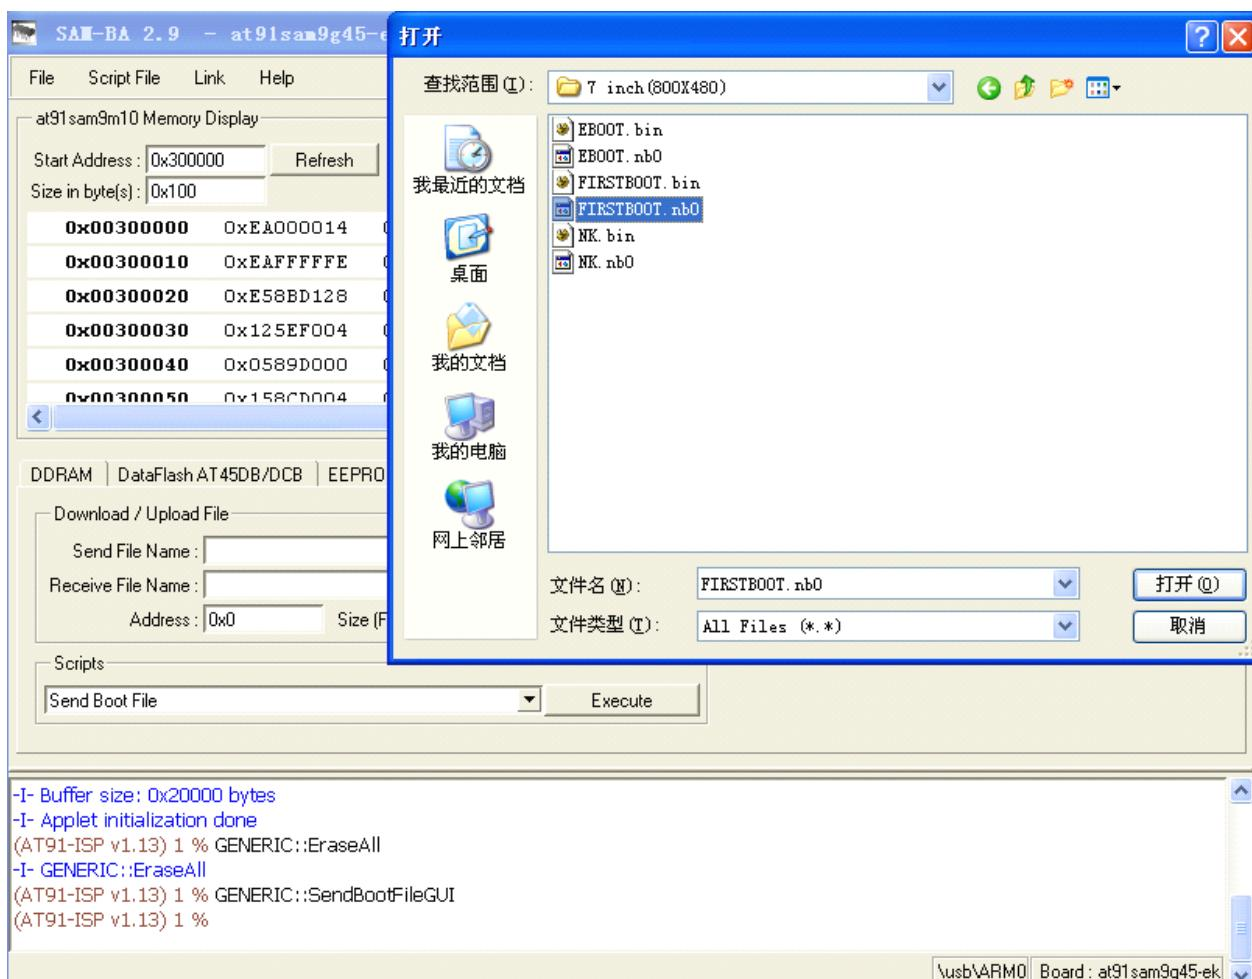
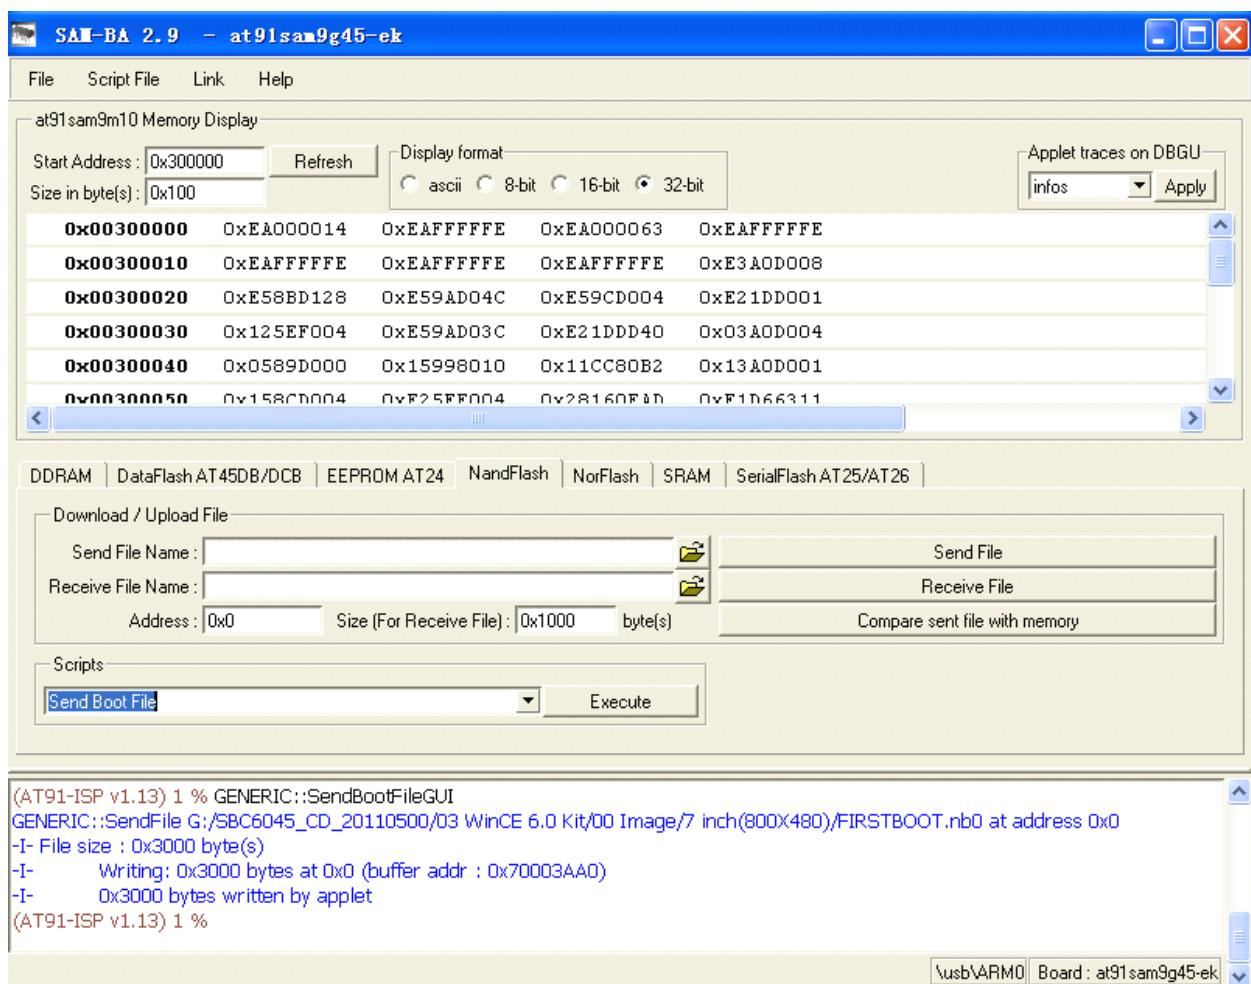

Figure 12.2.6
Figure 12.2.7
3. Select Send Boot File button in the Scripts pulldown menu of SAM-BA v2.9, click Execute button in SAM-BA v2.9, and open file dialog box as shown in Figure 12.2.6 will pop up in SAM-BA2.9.
- As shown in Figure 12.2.6, select FIRSTBOOT.nb0 file under the path \03 WinCE 6.0 Kit\00 Image in SBC6045 CD in the open file dialog box of SAM-BA v2.9, then click Open button in open file dialog box of SAM-BA v2.9, SAM-BA v2.9 will automatically start burning FIRSTBOOT.nb0 file to the beginning of 0x00000000 address of NAND flash on SBC6045 board. After the burning is successful, the interface as shown in Figure 12.2.7 will appear.